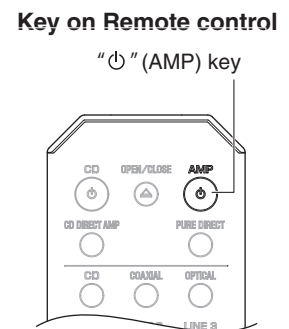

Fig. 20
7. Press the "⏻" (AMP) key on the remote control to set this unit to standby. (Fig. 20)
9. Press the "⏻" (AMP) key on the remote control to turn on this unit. (Fig. 20)